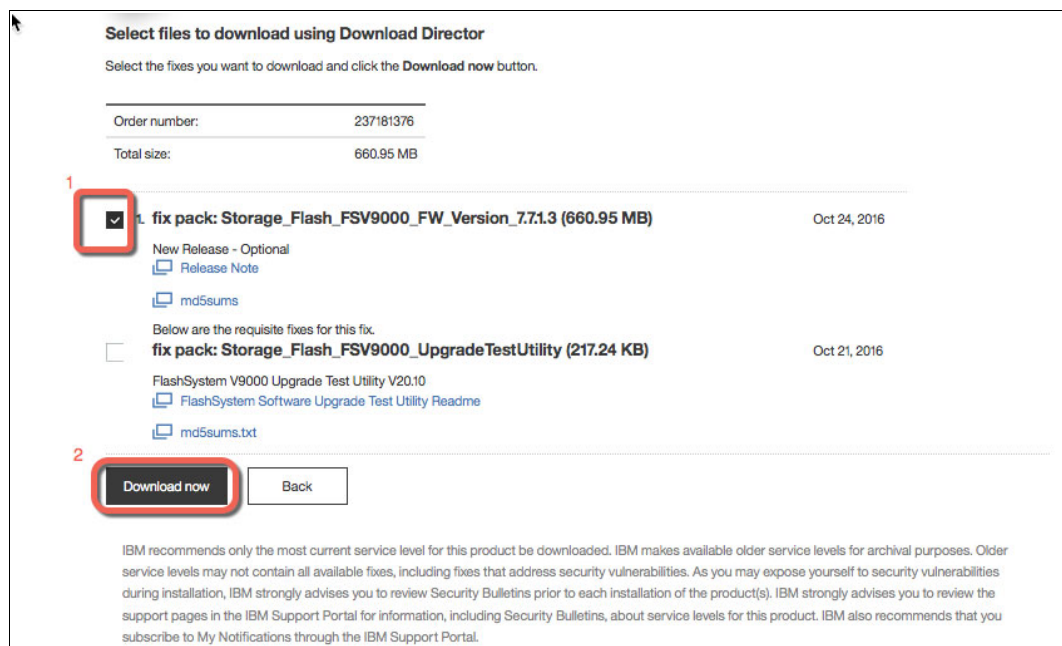

Figure 13-46 Download the best fix pack for your environment
5. Read the release notes in Figure 13-46 to determine the best fix pack for your environment, Select the fix pack (1) and click **Download now** (2) to initiate the file transfer. Download director is the preferred method for download because it is multi-threaded.